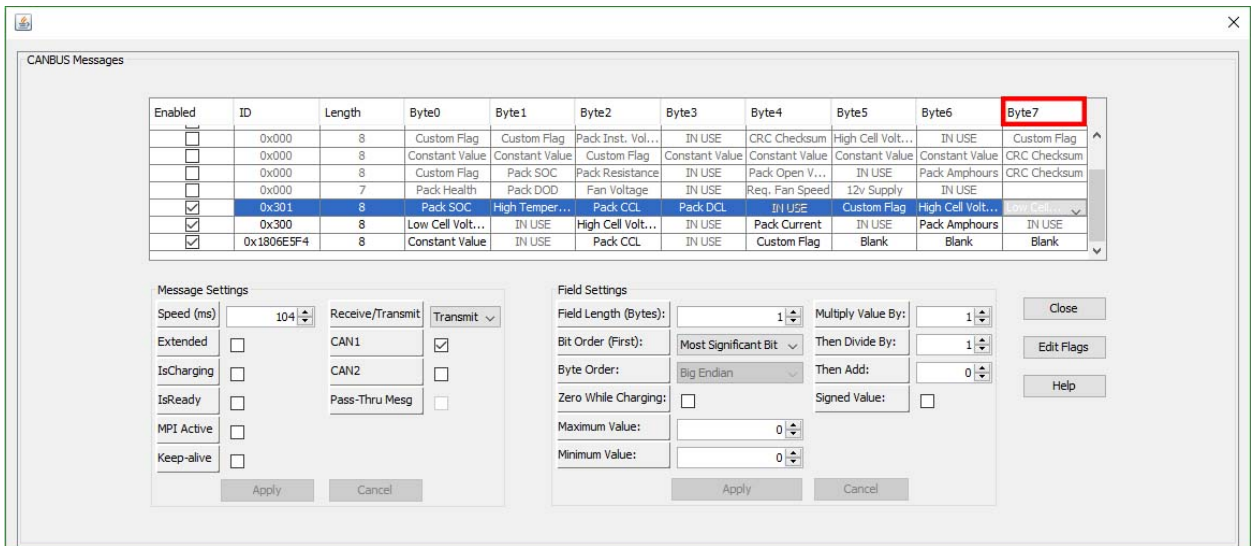

Fig. 38
22. The following is the settings for **LOWEST CELL VOLTAGE ID**. The Byte used is Byte6 in message 0x301. In the dropdown menu for Byte7 make sure that **LOWEST CELL VOLTAGE ID** is selected. (Fig. 38 & 39)